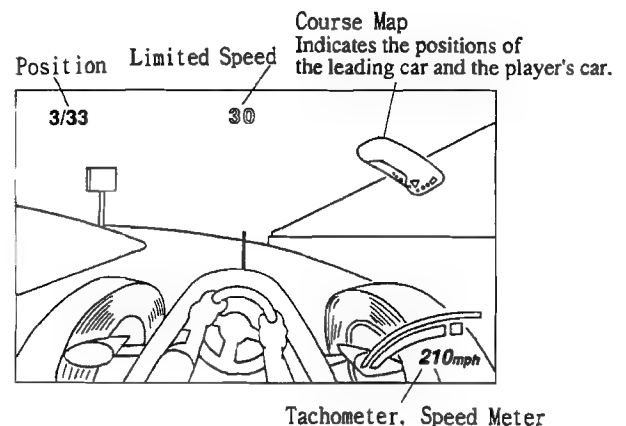

FIGURE 17: ON-SCREEN DISPLAY LOCATIONS
7. The on-screen indicators during a race are shown in Figure 17 and described in Table 4.